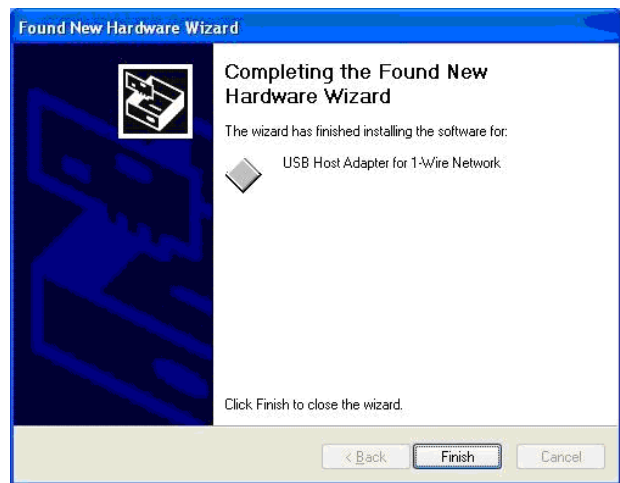

Figure 30
- The New Hardware wizard will search and install the driver. See Figure 30. Then click “Finish”. See Figure 30.